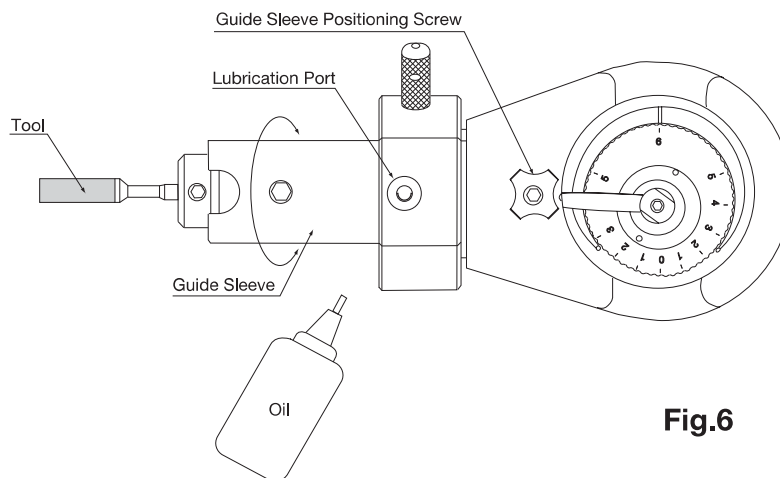

Fig.6
- Loosen the guide sleeve positioning screw to make the guide sleeve smoothly rotate. (**Fig.6**)
- Fasten the guide sleeve positioning screw to fix tool. (**Fig.6**)
Lubricate LUSTER at least once a day from the lubrication port as shown. (**Fig.6**)